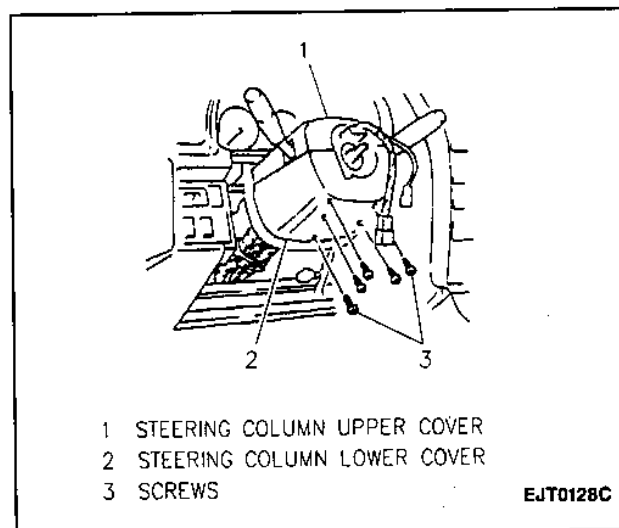

Figure 9—Removing Upper and Lower Steering Column Covers
- 5. Five screws from steering column lower cover and remove upper and lower covers (Figure 9).
- A. Upper and lower steering column covers by removing five screws from lower cover (Figure 9).